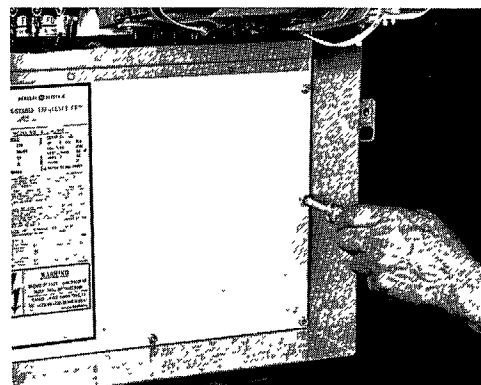

FIGURE 28
- b. Remove the seven nuts with captive washers that hold the lower barrier in place (see Figures 28 and 29) and remove the lower barrier.